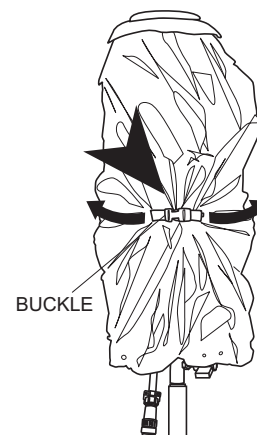

Figure 20. Releasing Buckle
7. Release the buckle on the belt holding the balloon together. See Figure 20.
2. Push the button above the LED with a blunt object for three seconds as shown in Figure 20. LED will turn red and the lamp will turn off. The balloon will remain deployed.